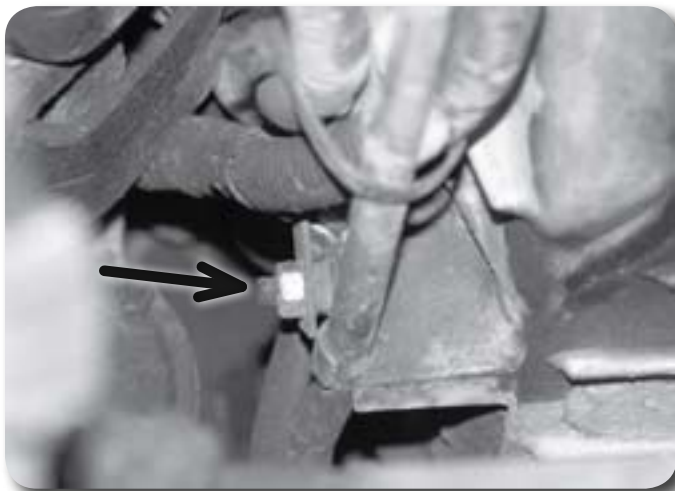

Figure 17
27. Remove the bolt/clip mounting the oil cooler lines to the passenger's side of the engine oil pan **Figure 17**. Remove the lines from the pan.